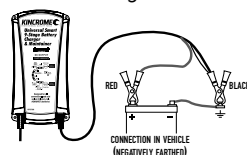

Fig 2
- FIRST Connect the RED (+) Crocodile clip or ring terminal lead to the (+) battery terminal and then connect the BLACK (-) Crocodile clip or ring terminal lead to the vehicle's chassis (Fig 2).